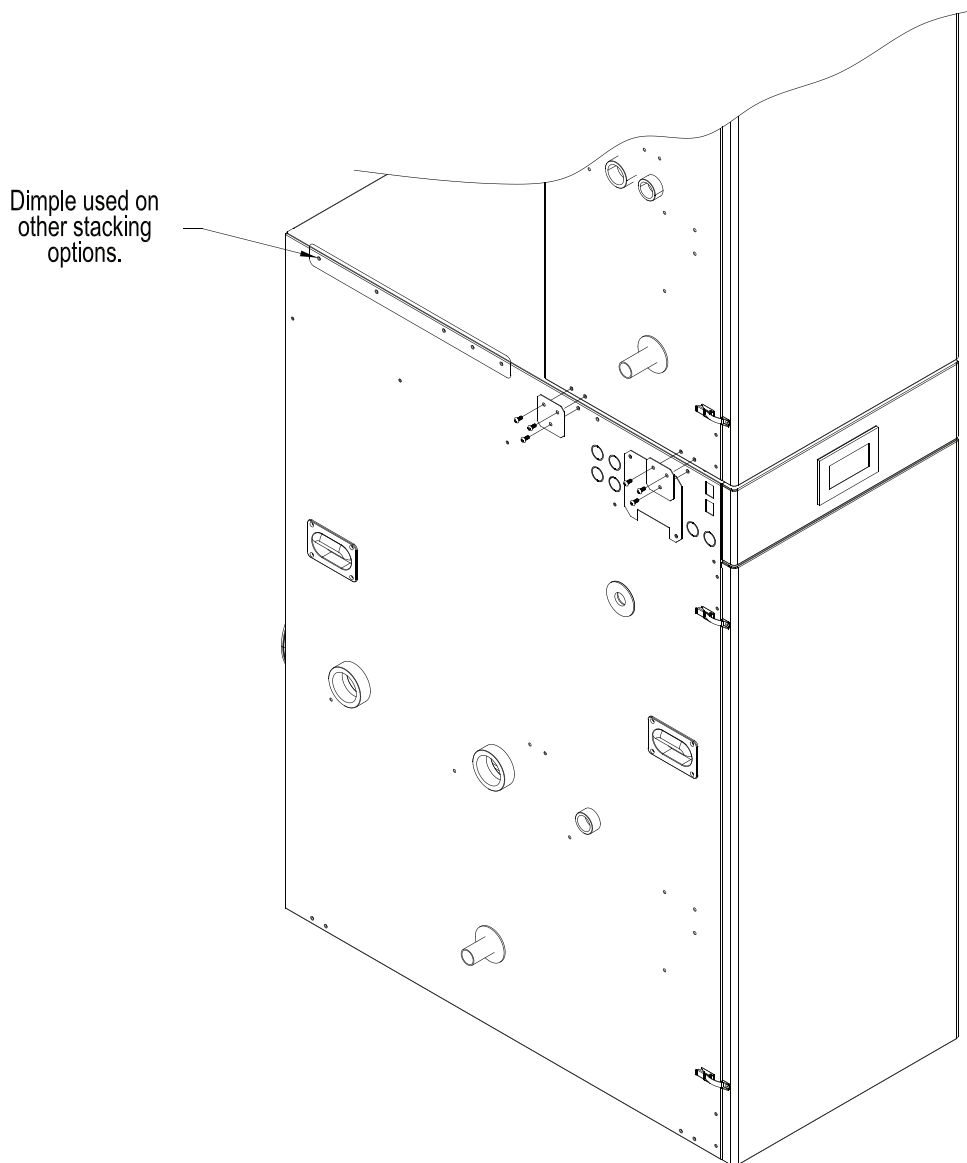

Figure 3: Stacking Boiler Attachment Bracket Placement
- b. Each Phantom boiler is factory packaged with 2 stacking boiler attachment brackets (P/N 101679-01) and the bracket mounting hardware [six (6) self-drilling hex washer head plated #8 x 1/2” long screws]. Locate and remove the brackets and the hardware. The stacking boiler attachment bracket has three 7/32” diameter holes punched in a triangular pattern. See Figure 3 “Stacking Boiler Attachment Bracket Placement”.